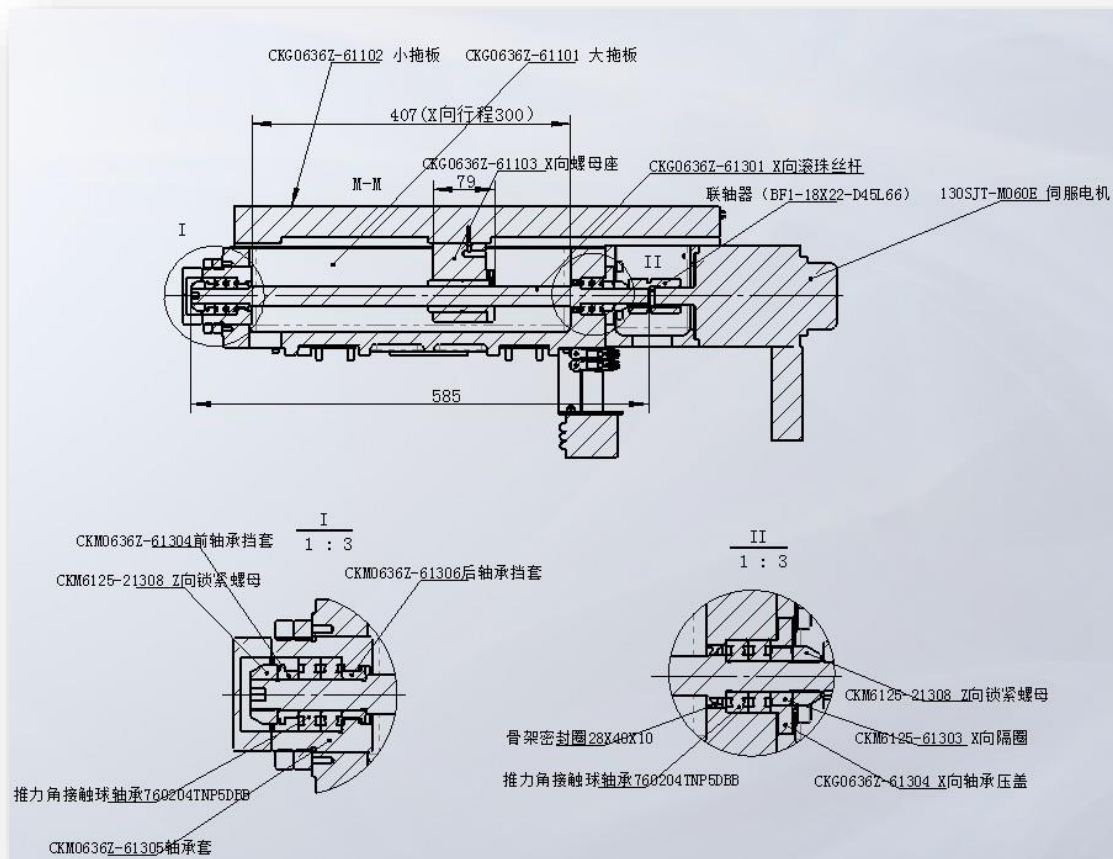

Figure. 3: schematic diagram of tray structure.
3.1.4 main drive (see figure 3)